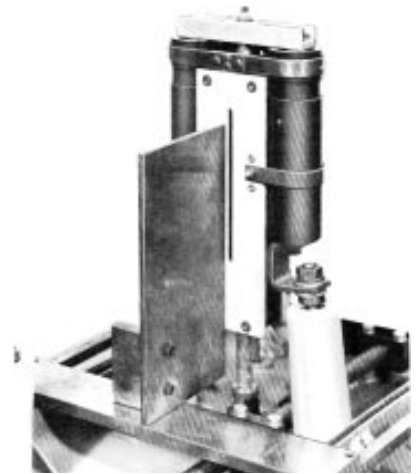

Figure 30.
- B. With a "sailboat" alignment fixture spanning the machined surfaces of the head casting, check the axial squareness of the contact housing as shown in Figure 30. Obtain proper squareness by adjusting the bushing nuts while
- D. Square the side of the contact housing with the head casting as shown in Figure 30. If misalignment exists, adjust by bending the entire structure as required.